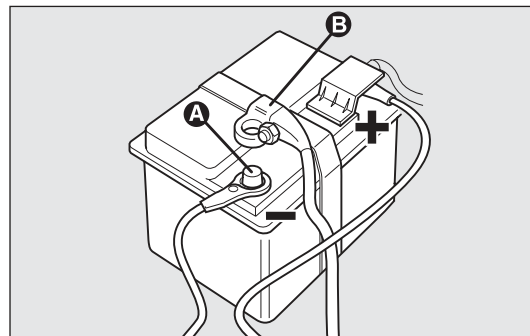

fig. 190
VERSIONS WITHOUT Start&Stop SYSTEM fig. 190
- ☐ disconnect terminal B-fig. 190 from negative battery pole A;